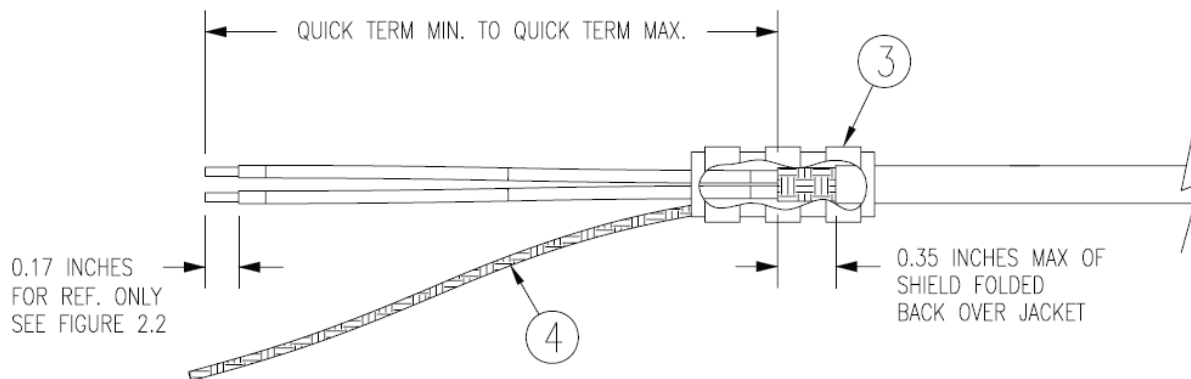

Figure B-9 Method B.1 (Quick Term) for Shield Termination
If desired, the drain wire termination (item 3) and the floating shield termination (item 5) can be effectively combined into a “Quick Term”. This method eliminates the float in the cable insulation and moves the placement of the window which was described by the dimensions “Window Min” and “Window Max” from Method A. This technique is depicted in Figure B-9.
Connect a Flat Braid (item 4) to the folded back shield of the prepared cable assembly. The flat braid should go out the front of the termination towards the connector. It is not permitted to exit the rear of the termination and loop back towards the connector. (Figure B-9). Make this connection using an approved shield termination technique.